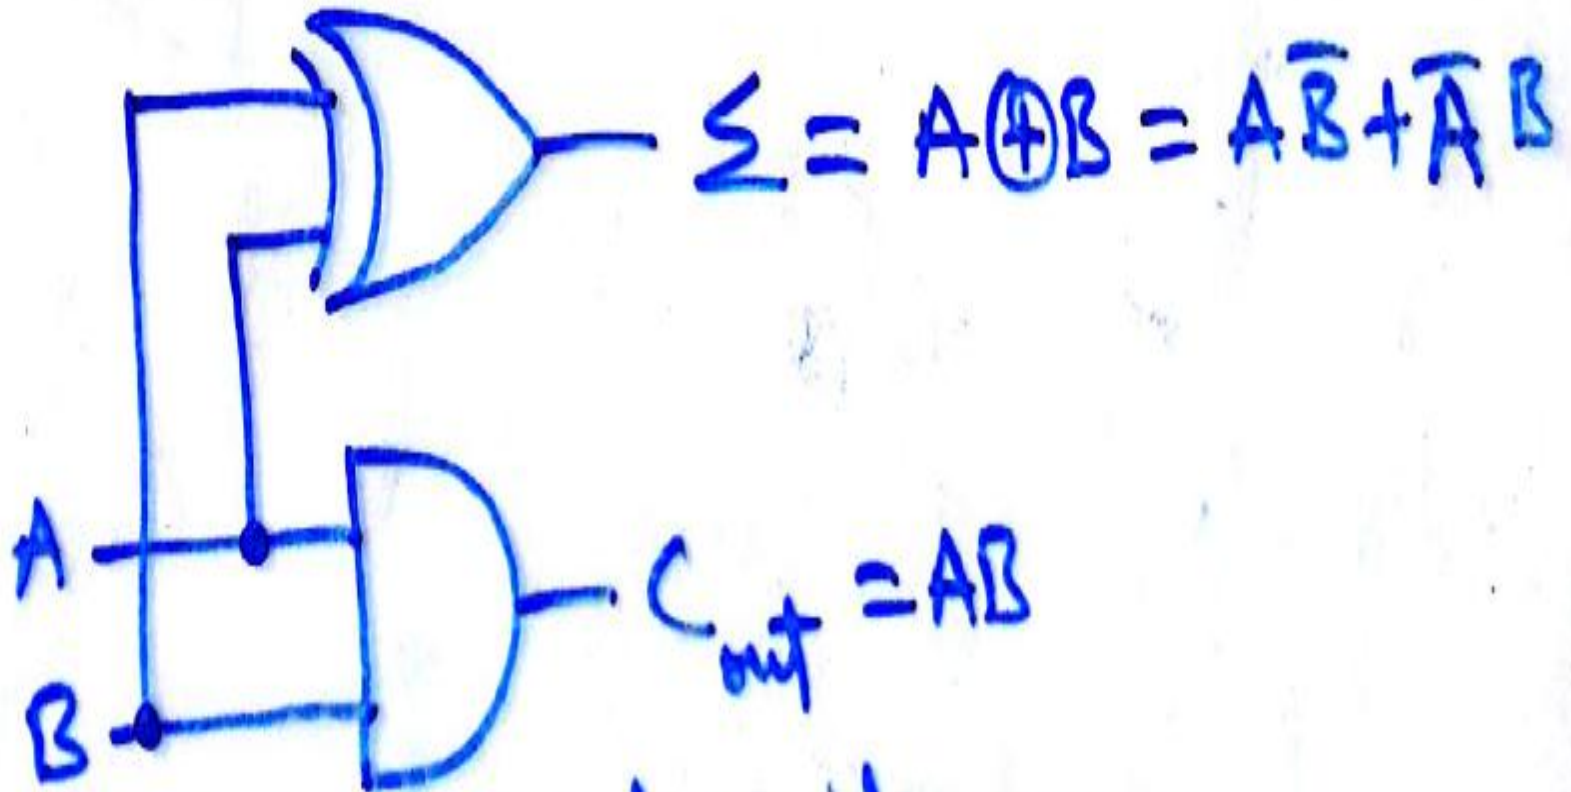

Fig 6-10 Half-adder logic diagram
- By using above two equations, the logic diagram for half adder is given in the figure 6.10.